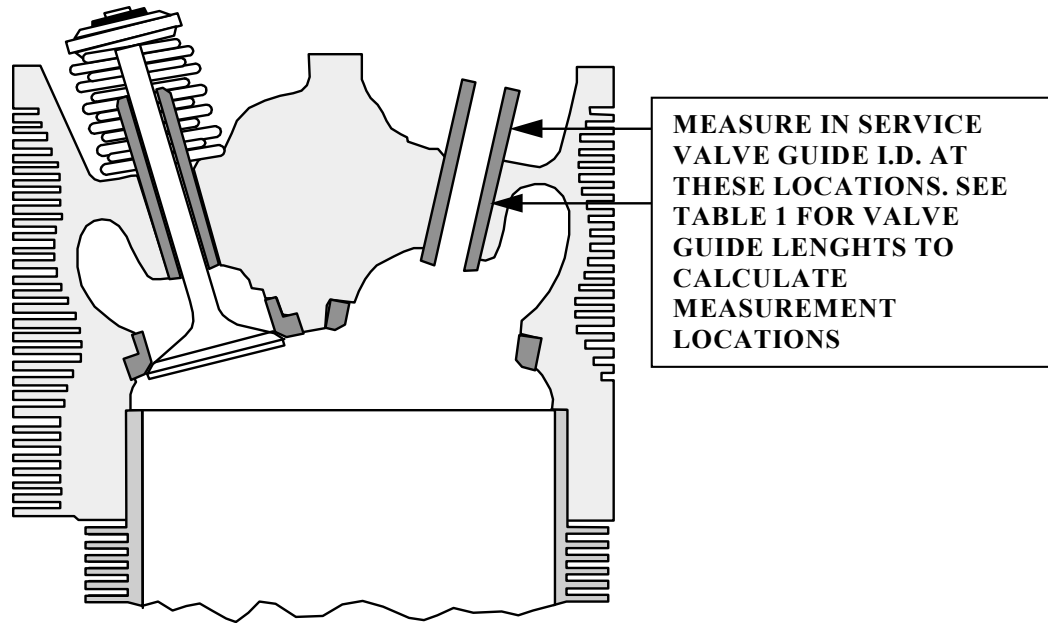

FIGURE 1
2. When measuring valve guide inside diameter during cylinder repair, take valve guide measurements at locations in the upper 1/3 and center 1/3 of the valve guide length, reference Figure 1 and Table 1. Measurements taken at the bottom of the intake and exhaust valve guide are not indicative of the overall serviceability of the valve guide.